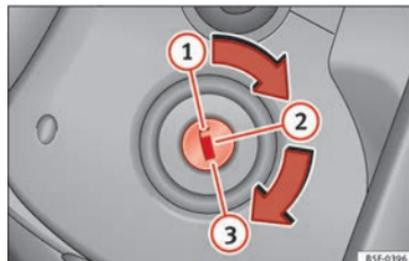

Fig. 187 Ignition key positions.
»» Fig. 187.
- Remove the key from the ignition in position ① »» Fig. 187 »» ⚠.